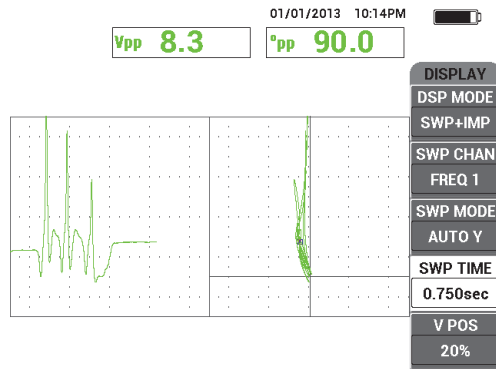

Figure 5-37 The default display of maximum signal amplitude and signal angle
3. Confirm that the value of the maximum signal amplitude and signal angle are displayed by default, as shown in the example in Figure 5-37 on page 152. For more details about the reading type or position in the impedance plane display, see “Displaying Real-Time Readings” on page 62.